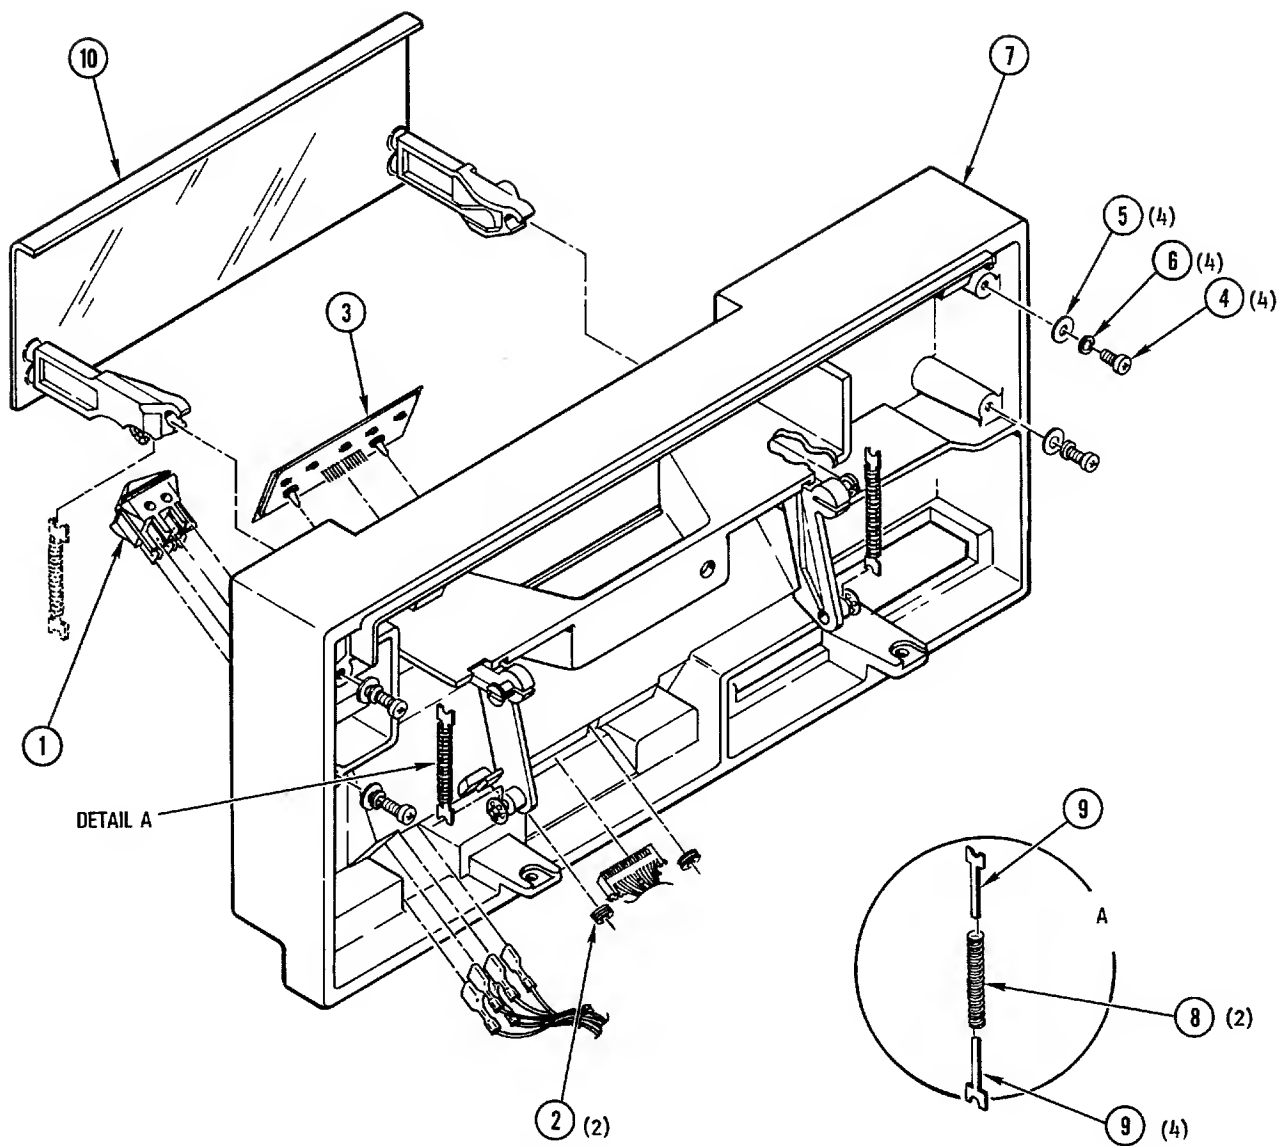

Figure 4-7. Front Panel Assembly
4-19. **Power Switch Replacement.** To replace the power switch (1, Figure 4-7) proceed as follows:
4-20. Touch Switch Replacement. To replace the touch switch (3, Figure 4-7), proceed as follows:
4-21. Front Panel Subassembly Replacement. To replace the front-panel subassembly (7, Figure 4-7), proceed as follows:
4-22. Removal And Replacement of Door Assembly. To replace the door assembly (10, Figure 4-7), proceed as follows:
- b. Remove two springs (8) and four guides (9), and push door out of front panel, using finger pressure on back of door from under side of panel.
- c. Install door assembly in front panel subassembly by snapping arms onto plastic studs of front panel assembly, as indicated in Figure 4-7.
- d. Assemble guides (9) with springs (8), with flat surfaces of guides in contact with each other.